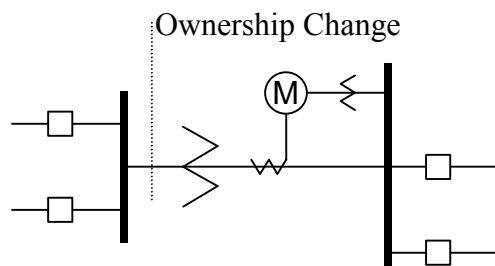

Figure 7.1: Low Voltage Metering Installation Requiring Loss Compensation
- Loss compensation may be used in any instance where the physical location of the meter does not match the electrical location where change of ownership occurs. Most often this appears when meters are connected on the low voltage side of power transformers when the actual ownership change occurs on the high side of the transformer. This condition is shown pictorially in Figure 7.1.